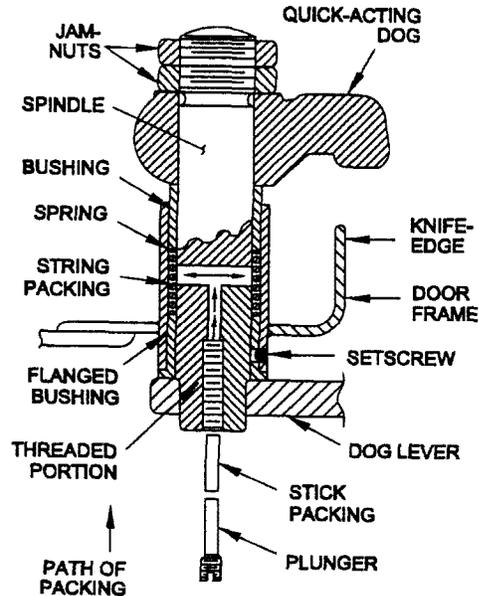
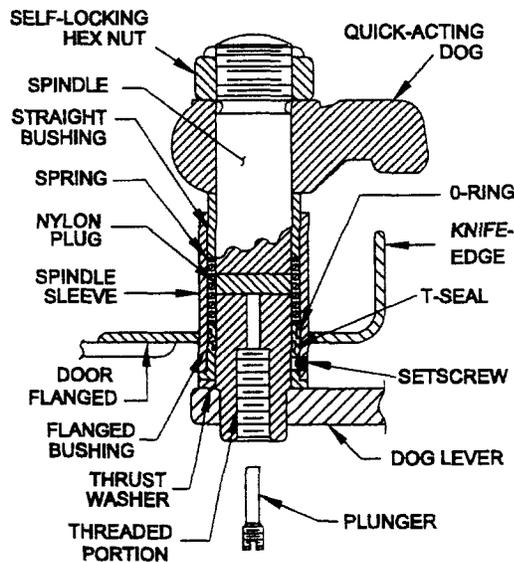

Figure 2-25. Quick-Acting Door Dog Assembly (Cross Sectional View)
Figure 2-25A. Quick-Acting Door Dog Lever Assembly (Cross Sectional View) Modified by MACHALT 167-31004 (ECP-444)
- g. Inspect each dog assembly. Ensure the straight bushing is firmly seated against the back of the dog and is free of dirt, corrosion, and paint. Ensure the flanged bushing is firmly seated against the end of the dog sleeve and is secured in place by its dog point setscrew. See figure 2-25. Setscrews are often painted over and may be difficult to locate. Remove paint as necessary to inspect for loose, missing, or broken setscrews. For self-lubricated bushings, there should be a CRES thrust washer between the dog lever and the face of the flanged bushing. See figure 2-25A.
- i. Ensure both jamnuts or self-locking hex nuts are in place on each dog assembly. Jamnuts should be locked tightly together. Remove any paint or dirt from the bushings with a wire brush and a clean rag. The straight bushing should not be stuck in the spindle sleeve and should rest against the back of the dog. If the bushing is jammed or stuck in the sleeve, bushing must be removed and the interior of the sleeve cleaned out and lubricated to ensure a free sliding fit. See figure 2-25A.